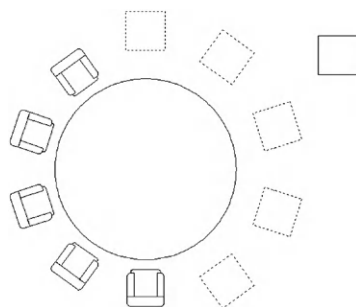

FIGURE 8.7
- **Replace Item.** If editing the source is too time consuming, then just replace it with another design via this option. AutoCAD asks you to select the replacement object and a base point. Use the **Key Point** option to pick a point on the replacement object. Finally, select an item (or several items) in the array to replace. Figure 8.7 shows Replace Item in action as squares replace the chair symbol.